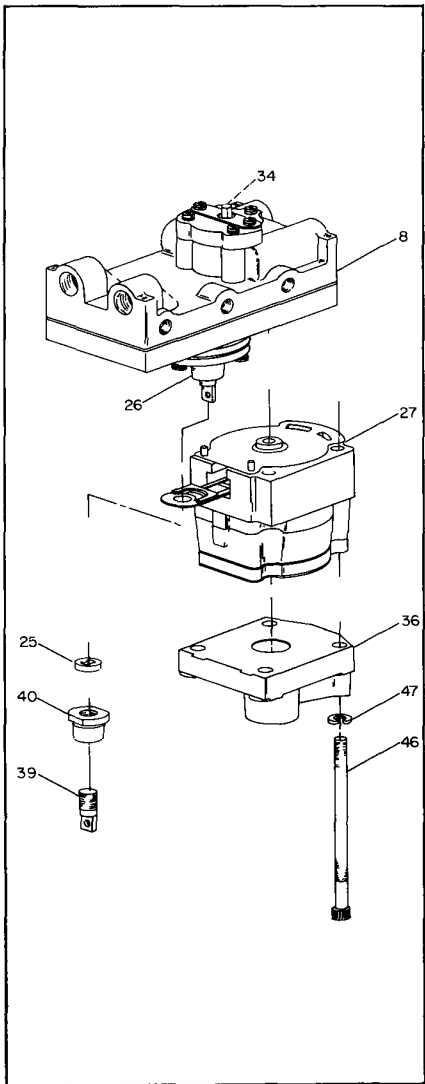

FIGURE 6 - Replacing Relay Assembly
1. Remove cam (34) from cam shaft (33).
2. Disconnect range spring (4) from spring retainer (15).
3. If Positioner is equipped with gain suppression accessory kit (items 7 thru 11), remove kit as follows:
a. Remove two screws (9), lockwashers (10) and small washers (11) from base assembly (13).
b. Disassemble retainer (8) and spring (7).
4. Remove two screws (30) from rear of base assembly (13) and carefully remove Positioner assembly (3).
5. To remove signal nut (40), place a 9/16 inch thin head or tappet, open end wrench on hex of signal diaphragm assembly (26) guide to secure guide in position and prevent rotation (Figure 6). With guide held firmly, place a 3/4 inch open end wrench on flats of signal nut (40). Remove signal nut and spring retainer (39) from threaded section of guide.